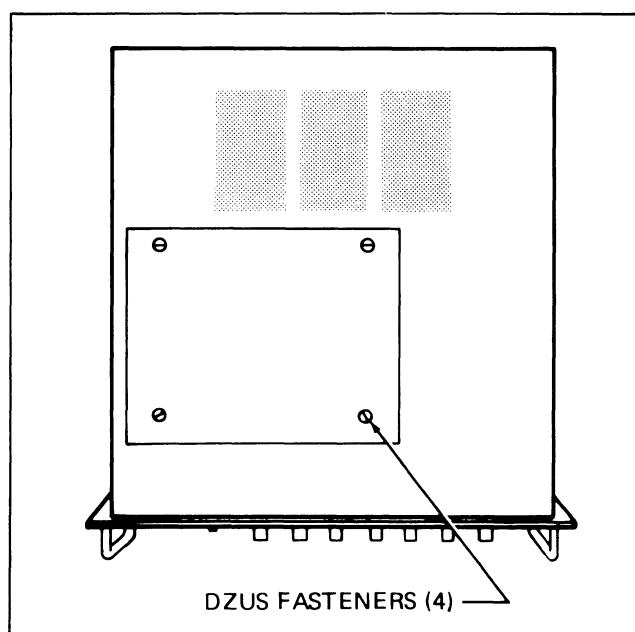

Figure 4-1. Calibration Access Panel
3. Unfasten four Dzus fasteners on calibration access panel on top cover and lift off top calibration access panel, See Figure 4-1.